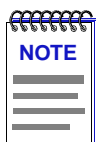

Figure 4-5. The RMON Create/Edit Events Window
The Create/Edit Events window (Figure 4-5, on page 4-21) — like the Create/Edit Alarms window — allows you to both create new events and edit existing ones. When you click on the **Create/Edit** button in the Events Watch list, the Create/Edit Events window will display the parameters of the event which is currently highlighted in the list. (If no events have yet been configured, a set of default parameters will be displayed.) All of these parameters are editable: to change an existing event, edit any parameter *except* the Index value; to create an entirely new event, simply assign a new Index number. The ability to assign index numbers allows you to quickly and easily create a number of similar events without having to close, then re-open the window or re-assign every parameter.
1. **If you wish to modify an existing event** or create a new event based on the parameters of an existing one, be sure the event of interest is highlighted in the Events Watch list, then click on the **Create/Edit** button at the top of the Events Watch portion of the RMON Advanced Alarm/Event window. The Create/Edit Events window, Figure 4-5, will appear.